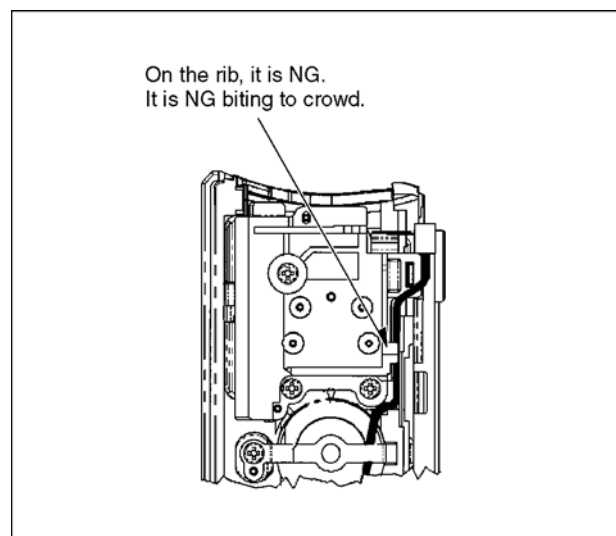

Fig. D8
- Top Operation Unit is installed and the following wire rod is a thing that becomes like Fig.D8.